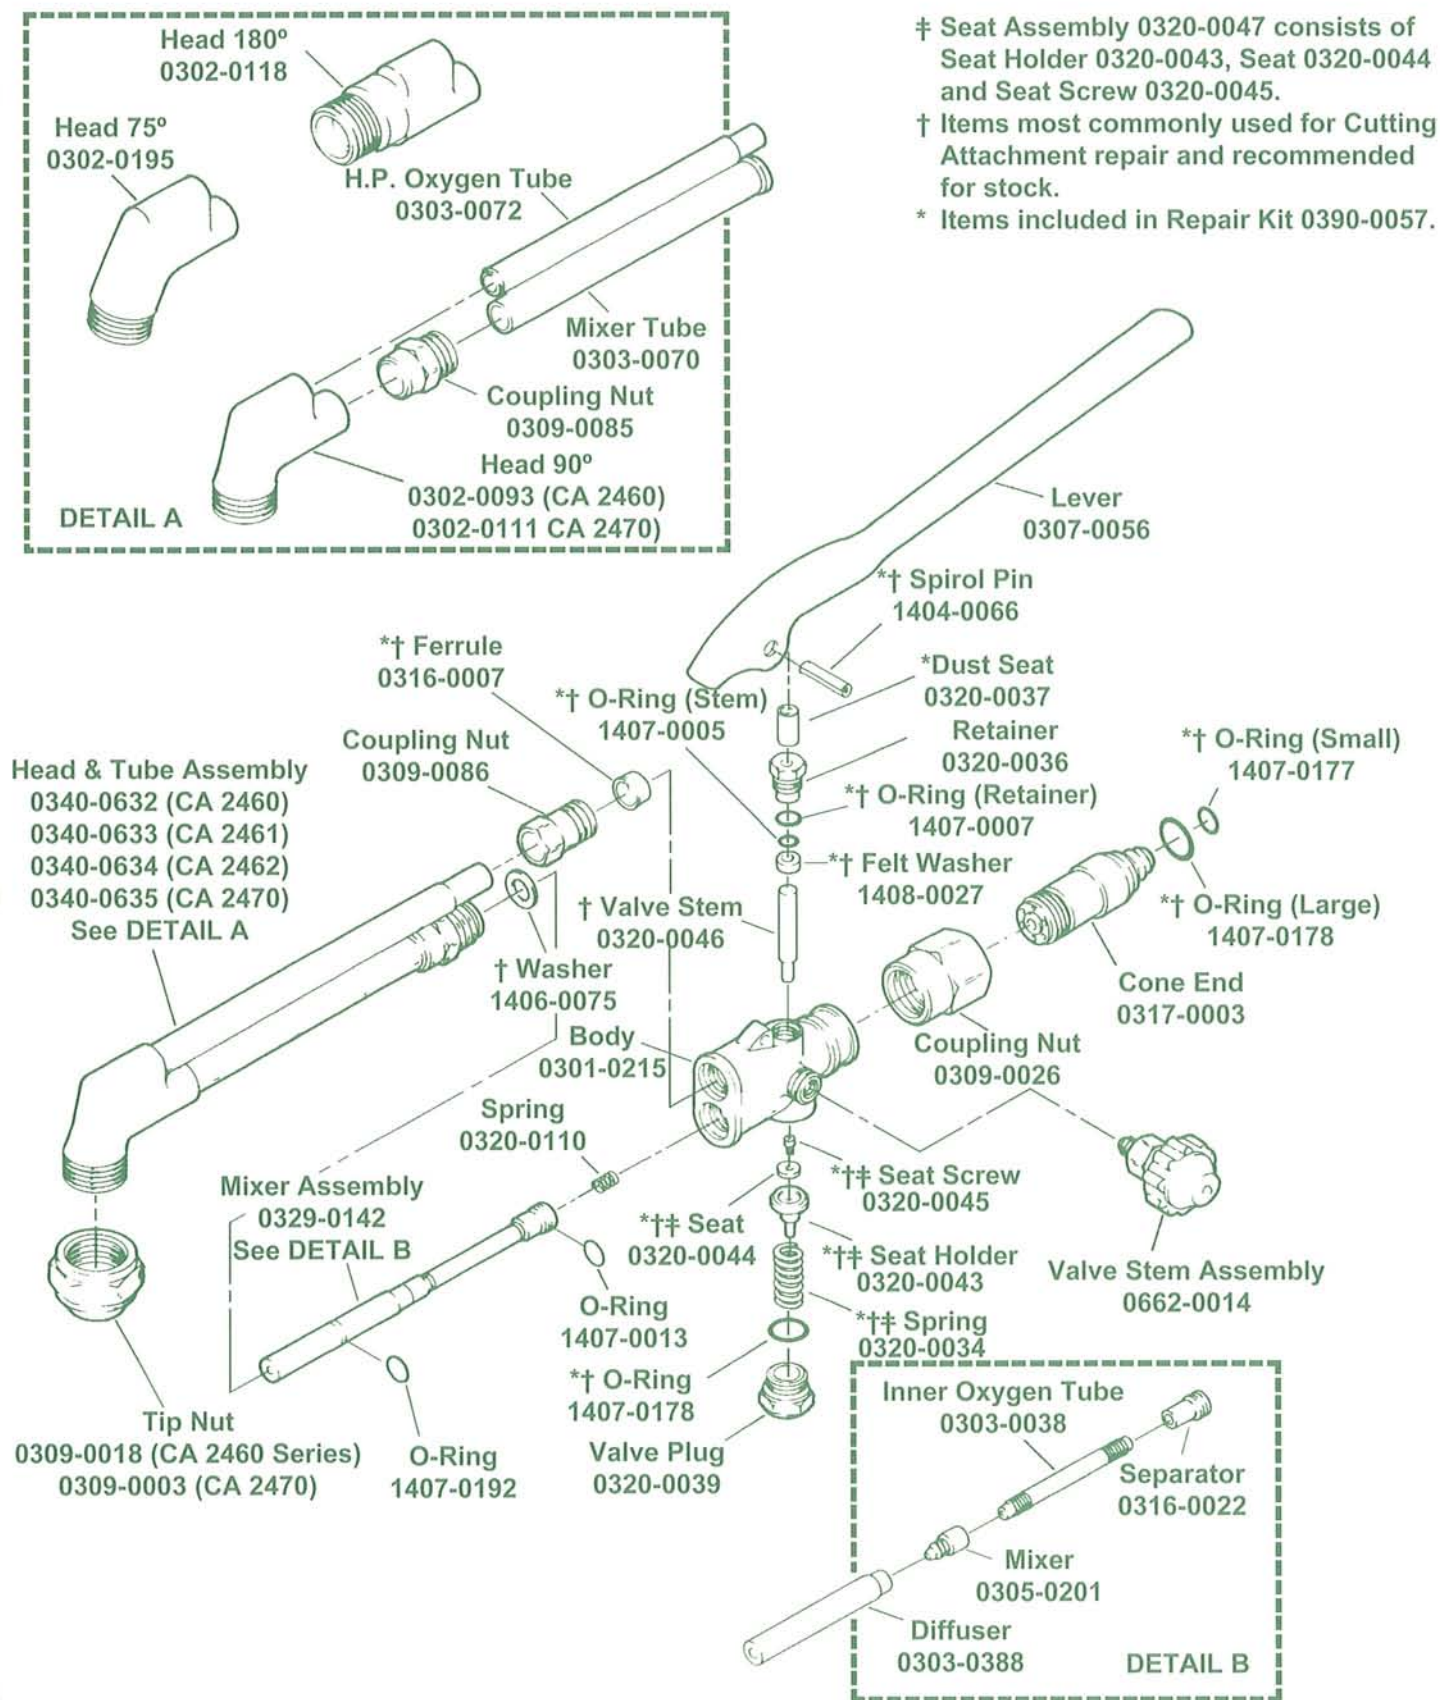

Figure 2: CA 2460 and CA 2470 Cutting Attachments
12. Disassemble the Mixer Assembly as shown in Detail B of Figure 2, CA 2460 and CA 2470 Cutting Attachments.
3. **CA 2460 ONLY** - Assemble the Mixer Assembly as shown in Detail B of Figure 2, CA 2460 and CA 2470 Cutting Attachments. Tighten securely for a gas tight seal. Use no sealants or lubricants.